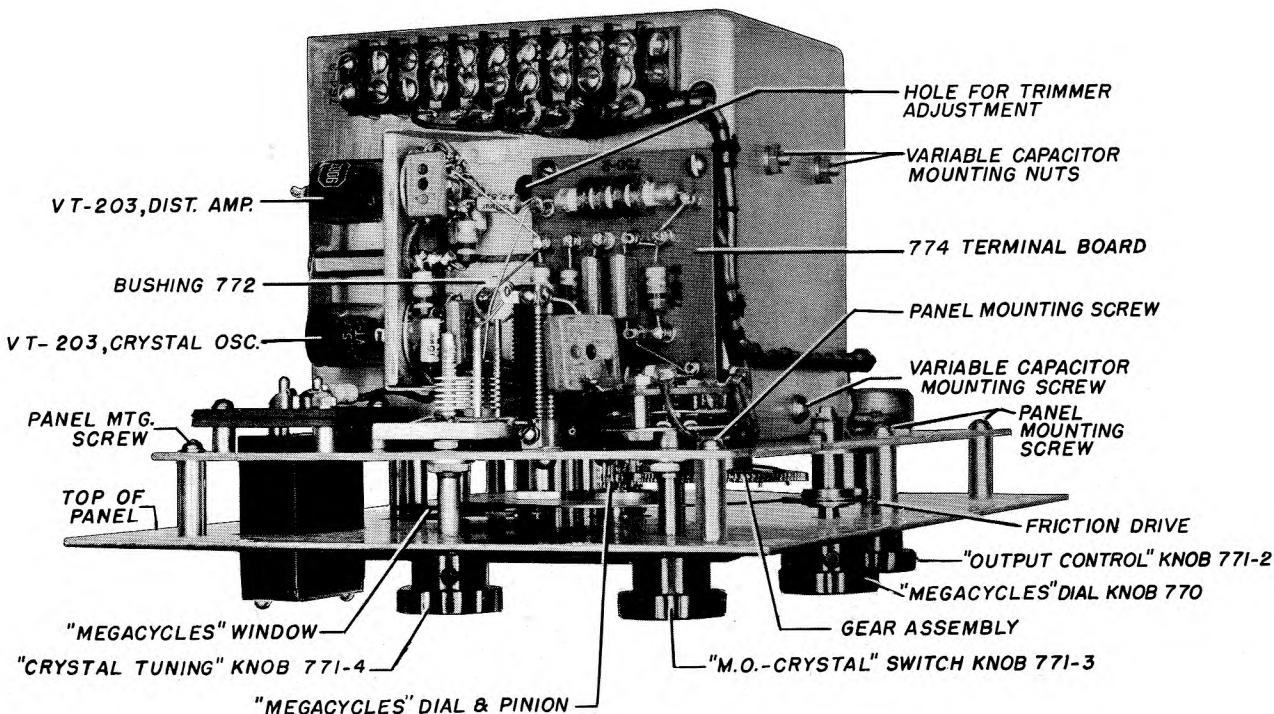
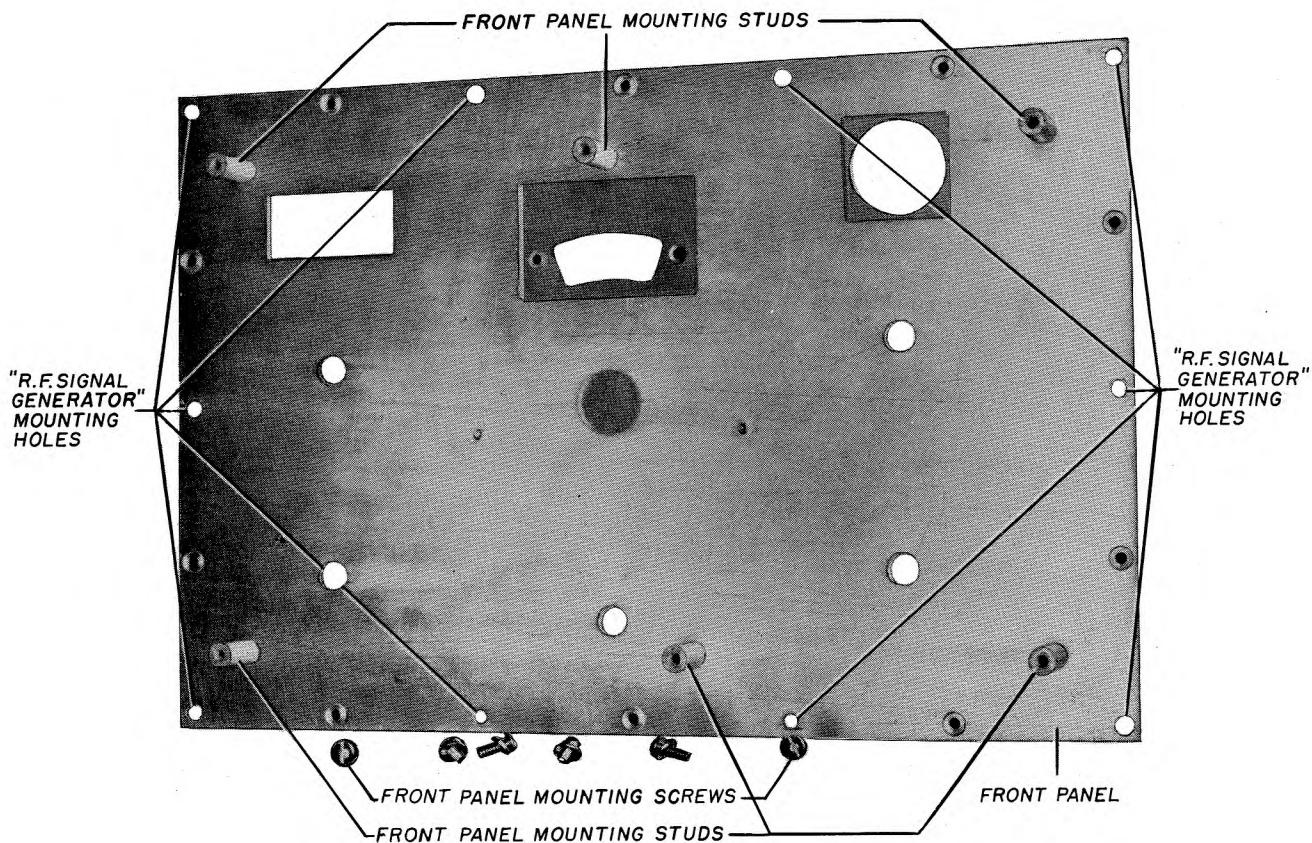

FIGURE 23—SIGNAL GENERATOR I-130-A, R-F UNIT, RIGHT OBLIQUE VIEW
FIGURE 24—SIGNAL GENERATOR I-130-A, R-F UNIT, REAR OF FRONT PANEL
(5) Soften the glyptal on the control-knob set screws, loosen the screws with a #8 Allen set-screw wrench, and remove the control knobs. Remove the 6 front-panel mounting screws (see FIGURE 23). Remove the front panel (see FIGURE 24).
(6) Remove the "MEGACYCLES" window and the two screws which secure the friction